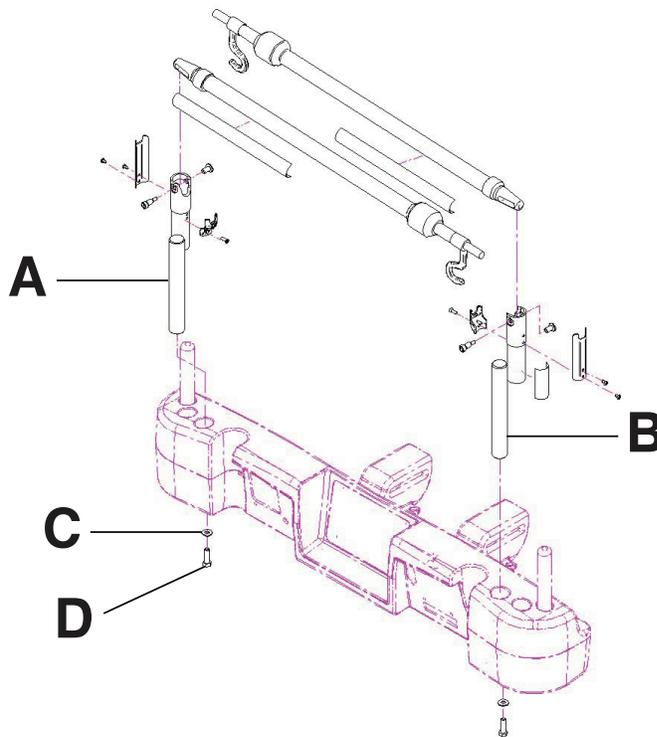

Figure 73: Dual two stage IV pole
1. Using a 3/8 in. drive ratchet and a 1/2 in. socket, install one washer (C) and one bolt (D) to secure the IV pole into the socket at the head end of the product (A) (Figure 73 on page 77).
2. Using a 3/8 in. drive ratchet and a 1/2 in. socket, install one washer (C) and one bolt (D) to secure the IV pole support into the socket at the head end of the product (B) (Figure 73 on page 77).